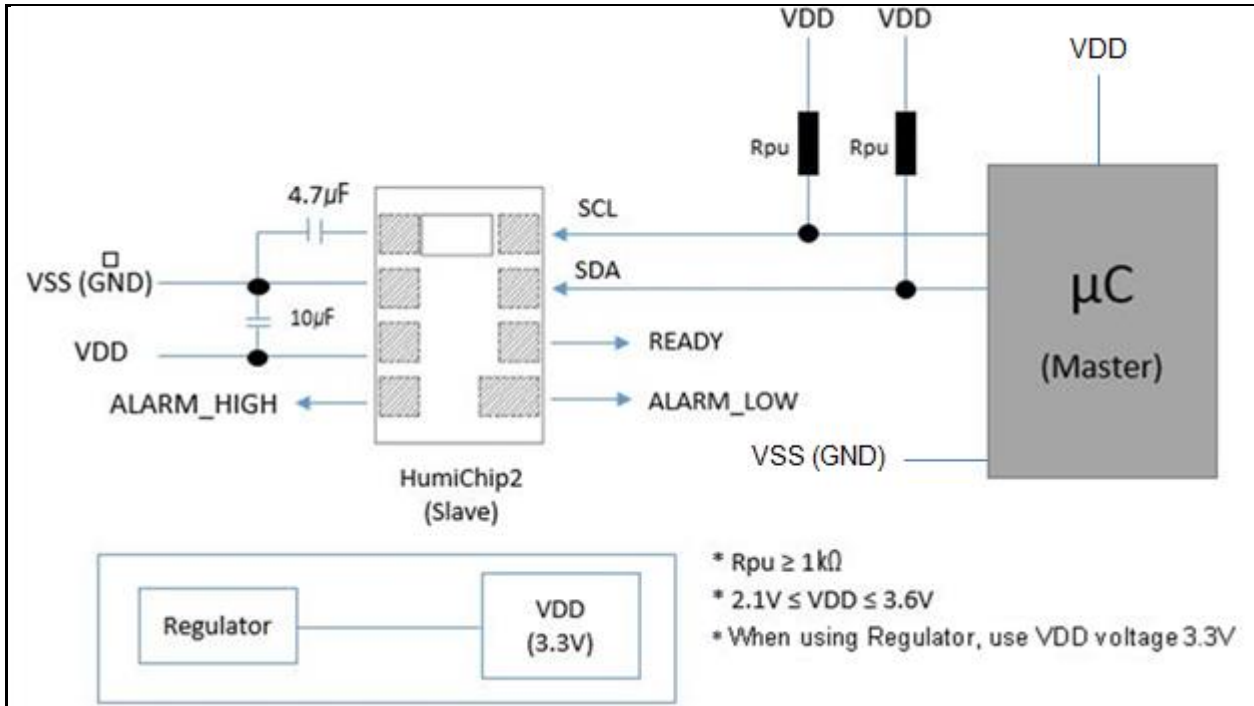

Figure 6 Typical Application Circuit
**Note :** Vcore must not be connected to VDD, and it must always be connected to an external 4.7 $\mu$ F capacitor to ground. (see Figure 6)
drive signal high, that can be included in I/O circuits of microcontroller. (see Figure 6)